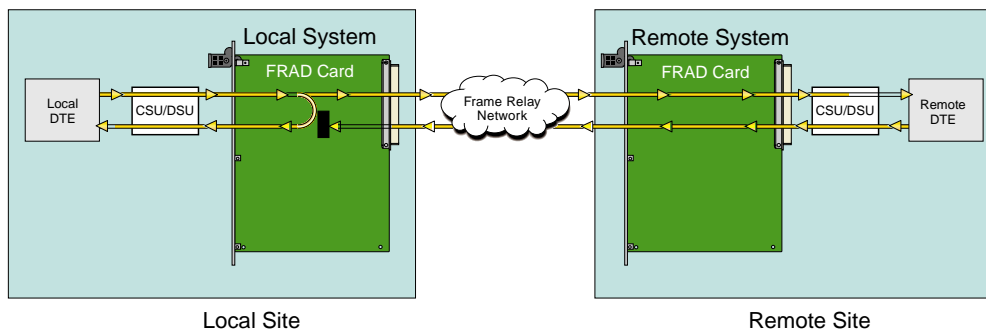
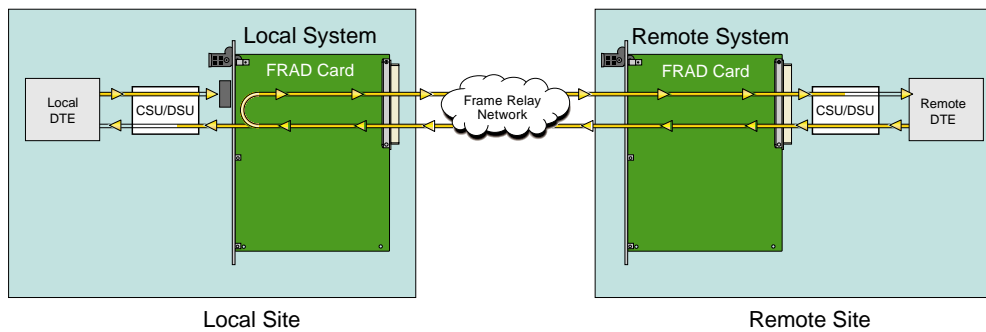

Figure 6-3.DTE Loopback
Figure 6-4.Network Loopback
The Loopback (LB) setting allows you to activate a number of different loopback options for RS232. The **off** option is the default setting. The **dte** (DTE) option (shown in Figure 6-3) loops data from the local DTE back to itself through the local FRAD card. The **net** (network) option is shown in Figure 6-4; it loops data back toward the distant DTE through the local FRAD card.